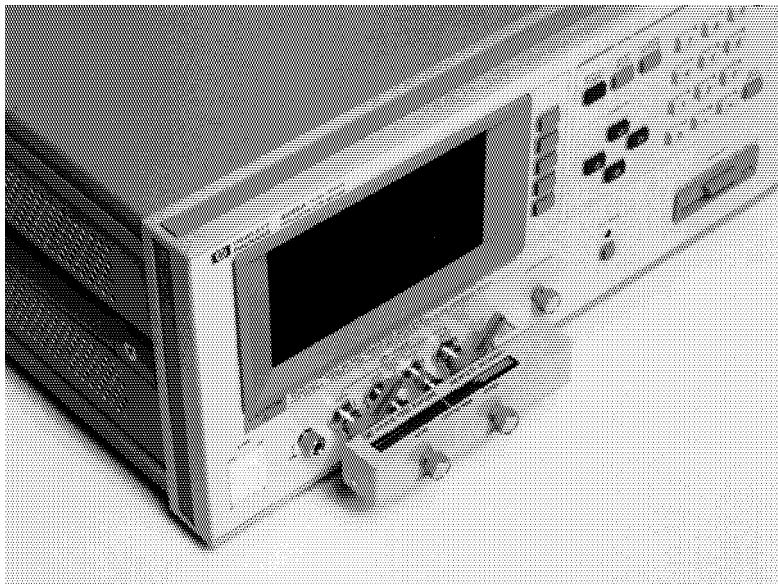

Figure 3-10. Connecting the 16047C
Connect the 16047C to the UNKNOWN terminals of the 4285A, as shown in Figure 3-10.
- a. Leave the 16047C in an OPEN condition as shown in Figure 3-10.